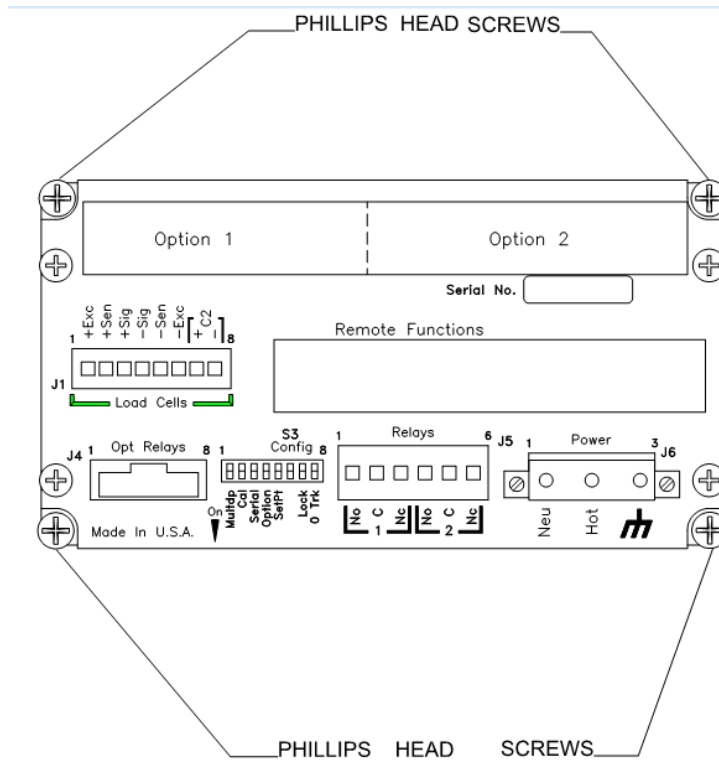
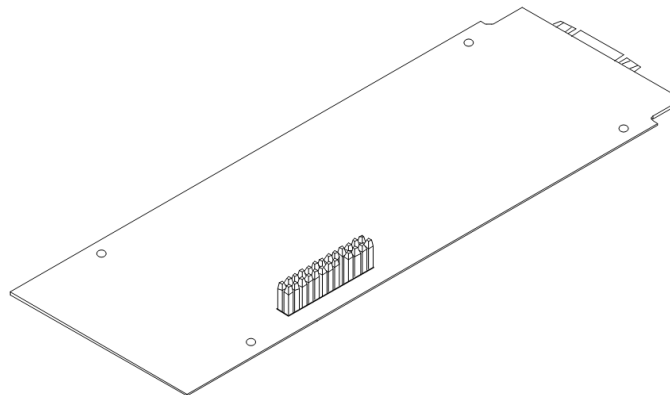

Figure 2-2
Figure 2-4
- Analog to Digital PCB is clearly visible and there are eight standoffs mounted on the board. (See Fig. 2-2)
9. With the pin connector side down, carefully plug the PROFIBUS Interface Card into either connector J4 or J5 (See Fig. 2-2) whichever is available. These connectors also refer to option 1 or option 2 on the rear panel. Option 1 uses connector J5. Option 2 uses connector J4. (See Fig. 2-4)